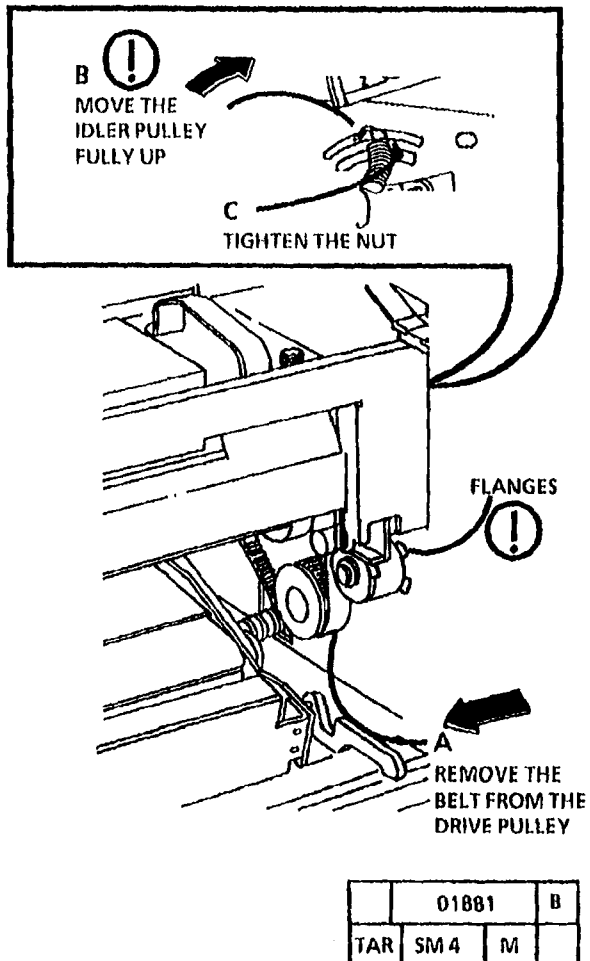

Figure 8. Remove the Fuser Drive Belt
12. (Figure 8): Remove the Fuser Drive Belt.